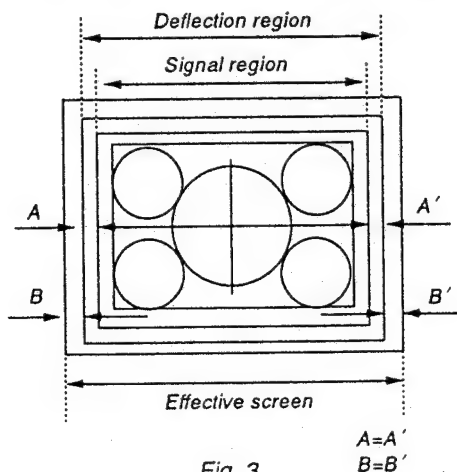

Fig. 3
7. Adjust **60 VIDEO PHASE** so that the signal region comes to the center ( $A=A'$ ) of the deflection region. (Fig. 3)